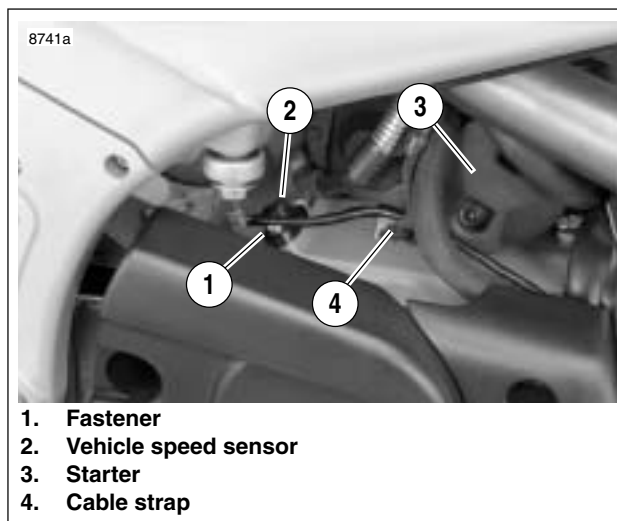

Figure 7-57. Speedometer Sensor
1. See Figure 7-57. Remove fastener (1) to detach vehicle speed sensor (2) from crankcase.
2. Remove cable strap (4).
1. See Figure 7-57. Lube O-ring with engine oil and install fastener (1) to attach vehicle speed sensor (2) to crankcase.
3. Install cable strap (4).